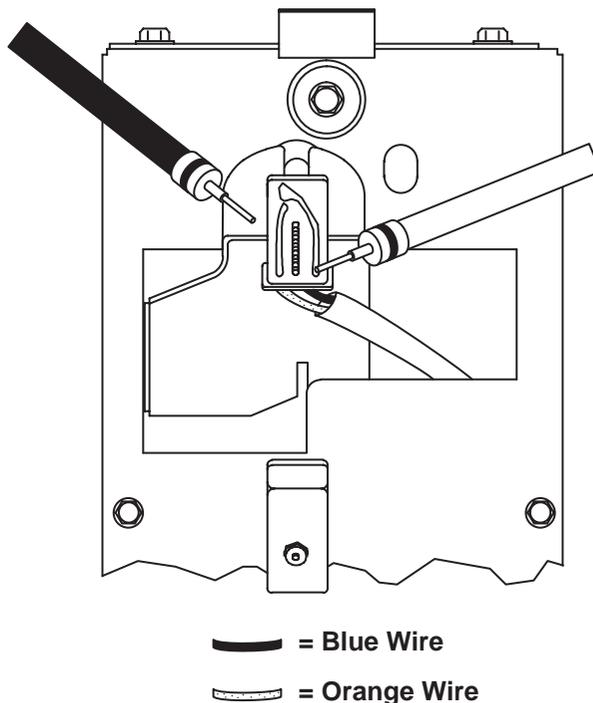

Figure 3-6A. Sensor Check
2. Remove the black plastic cover from the phototransistor and connect the Common meter lead to the metal dispenser backing plate as shown in *Figure 3-6A*.
3. Connect the + meter lead to the blue wire. (See *Figure 3-6A*).